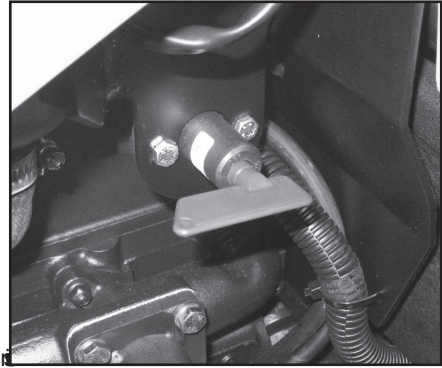

Fig. 5.7
- Switch in the "ON" position: electrical system powered (Fig. 5.7);